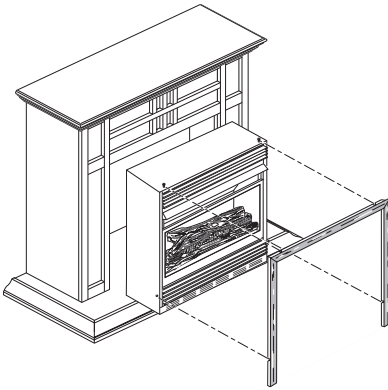

Figure 13 - Installing Fireplace into Mantel Assembly
5. Center cabinet mantel on hearth base (see Figure 13, page 13). Make sure mantel is flush against wall and centered left to right on base.
10. Carefully insert fireplace into cabinet mantel (see Figure 13, page 13). Be careful not to scratch or damage hearth base or cabinet mantel.